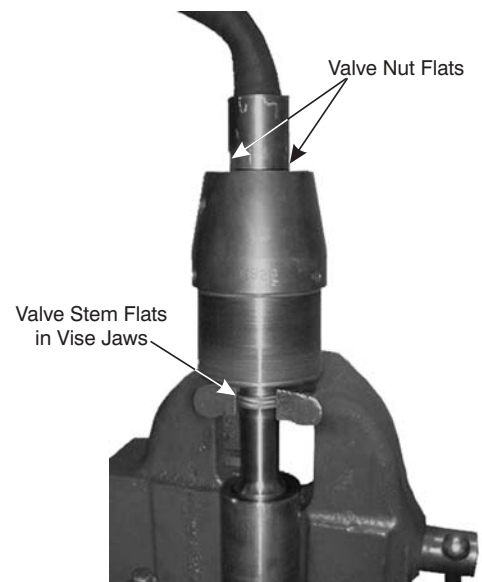

Figure 9-20. Tighten Valve Nut on Valve Stem.
9. Refer to Figure 9-20. Verify that the Valve Stem is securely held in the vise with the flats squarely between the jaws.
10. Apply a 2-3/8-inch open-end wrench across the flats of the Valve Nut (12),